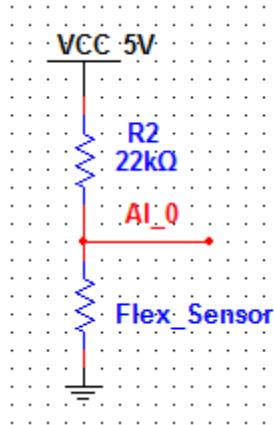

Figure 2: Flex Sensor schematic made in Multisim
2. An example circuit is shown in Figure 2. Build two copies of this circuit on your breadboard. Make sure to attach the output of one of them to AI_0 as indicated in Figure 2 and the other to AI_1.